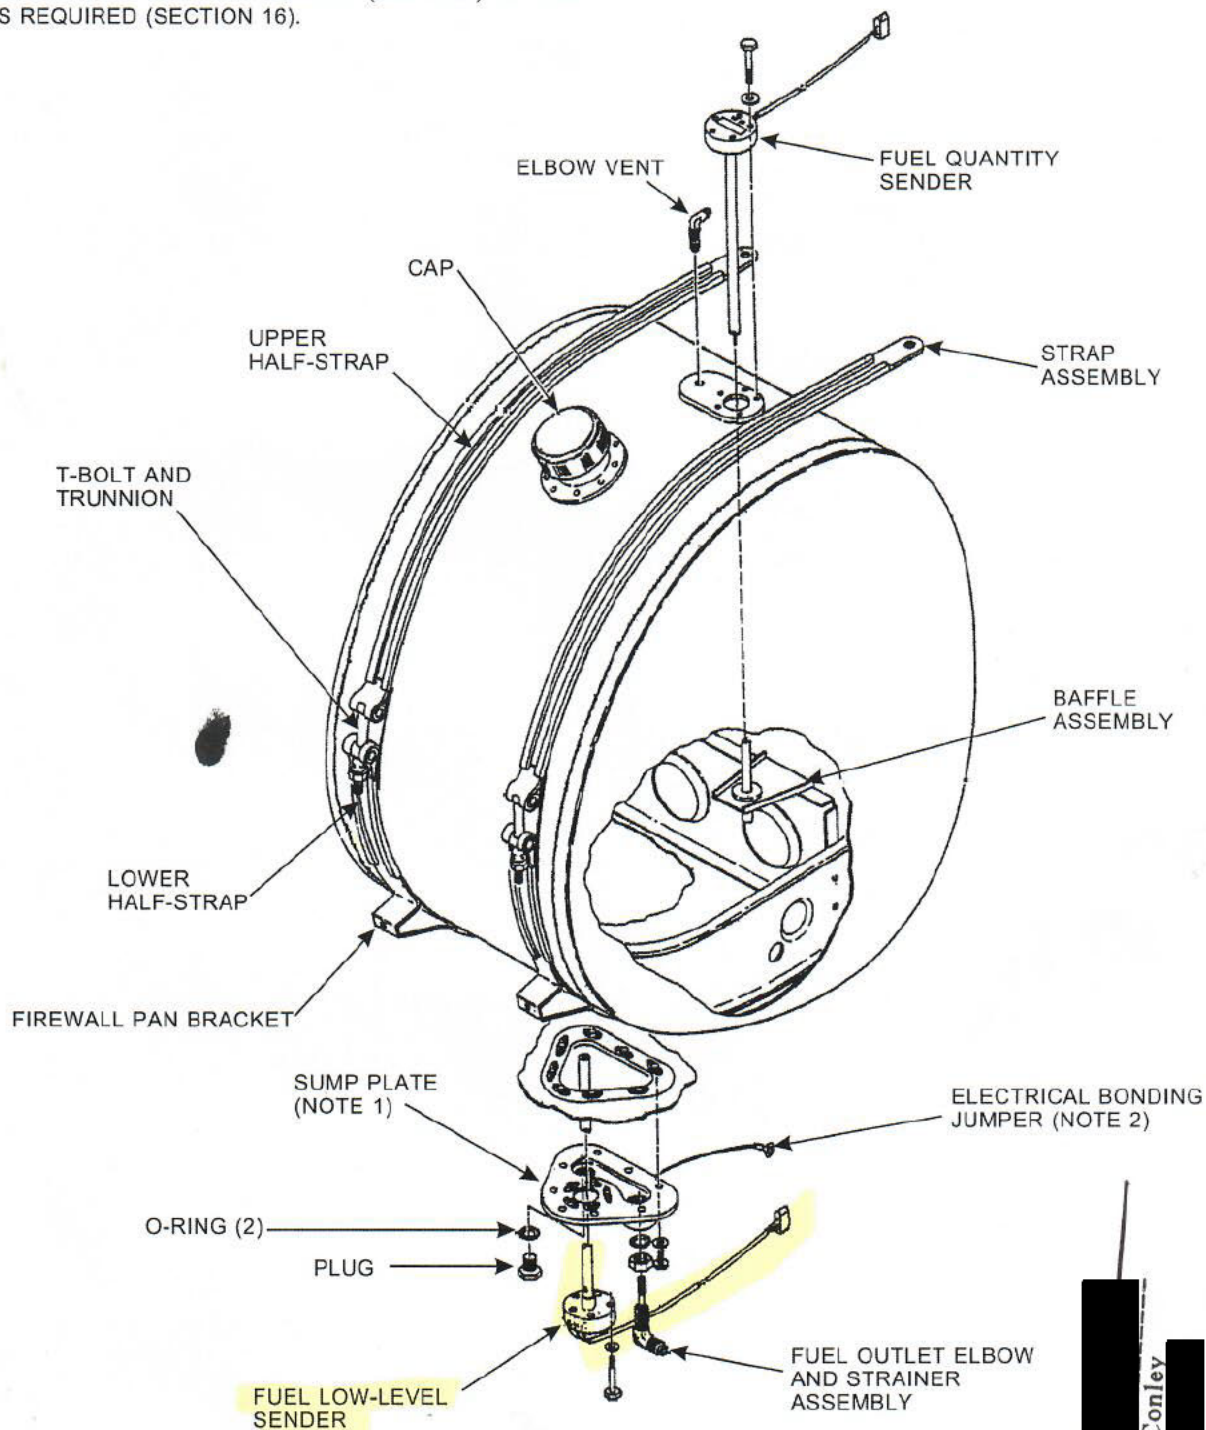

Figure 5-3. 33 Gallon Fuel Tank Assembly (Effective S/N 0106 & Subsequent)
5-22. INSTALLATION OF CAPACITANCE TYPE FUEL QUANTITY SENDER. (Fig. 5-3).
- c. Carefully insert sender probe into the tank through mount hole. Using a bright light, view end of probe through the filler neck and assure probe pass through support on baffle assembly (Fig. 5-3).
5-24. GENERAL. The fuel low caution system is activated using a float switch in the 35.2 gallon fuel tank (Fig. 5-2) and a capacitance type sender in the 33 gallon tank (Fig. 5-3). The actuators are located in the sump plates on the bottom of these fuel tanks. The switch or low-level sender turns on the FUEL LOW caution light located on the instrument panel, when 1.75 to 2 gallons of fuel remains in the tank. The float type switch mechanically completes the electrical circuit when the float is bottomed in the float housing. The switch elevation in the tank is adjusted to activate the light when the minimum fuel quantity is reached in the tank. The capacitance type sender has no moving parts and consists of a sensor probe and an amplifier. The amplifier senses the change in the capacitance in the sensor probe and converts these values into a resistance that turns on
5-29. REPLACEMENT OF FUEL CAUTION LOW-LEVEL SENDER (33 GALLON TANK). (Fig. 5-3)